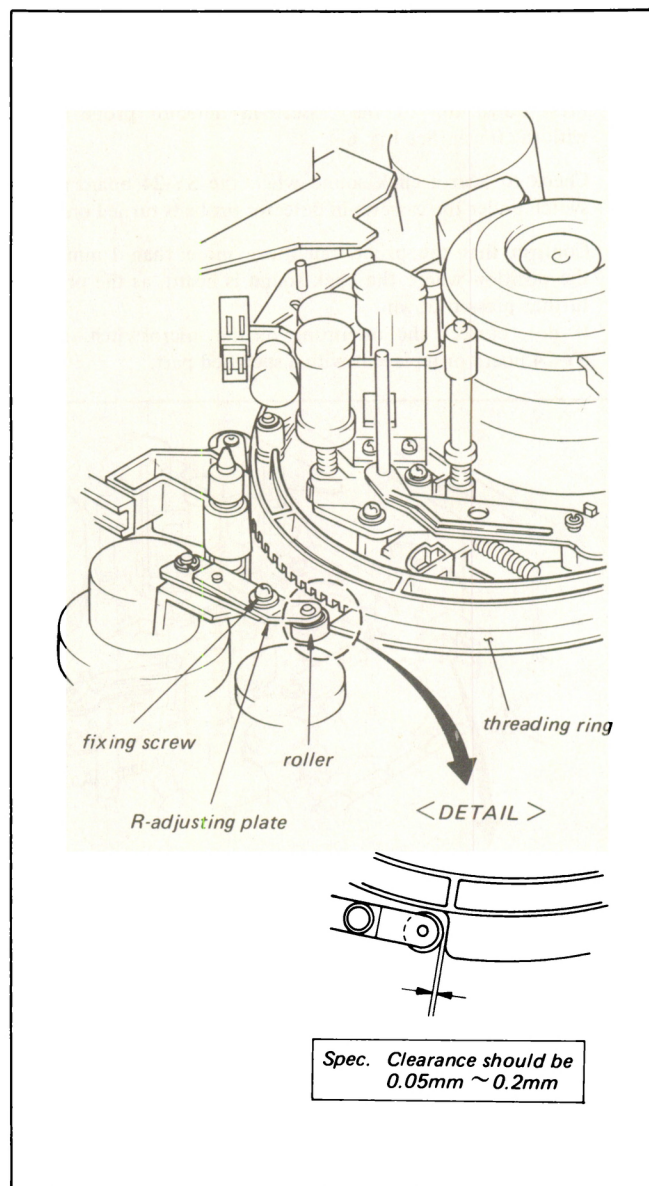

Fig. 6-7. Ring arm clearance adj.
2. Confirm that the clearance between the roller of the R-adjusting plate and the threading ring is within the specification as shown in Fig. 6-7.